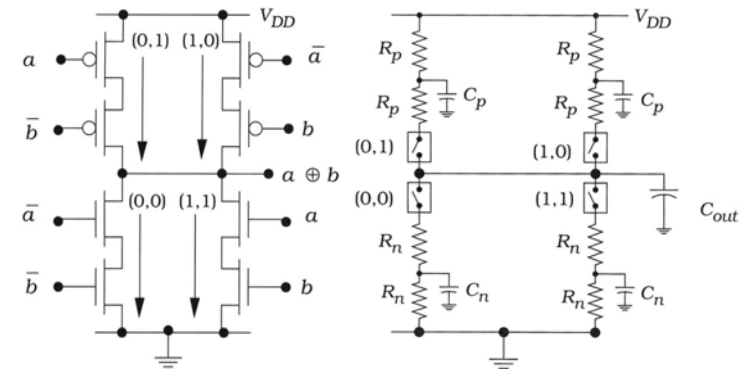

Figure 9.3 Switching mode for transient calculations (XOR)
- In Figure 9.3, transient calculations of XOR